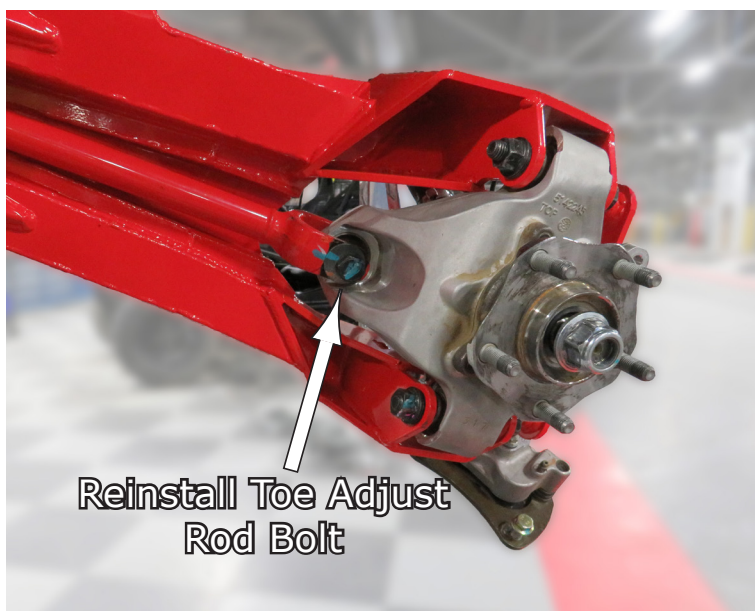

Fig.13
14. After the two previous bolts are installed, now install the Toe Adjust Rod Bolt. See **Fig.13**.